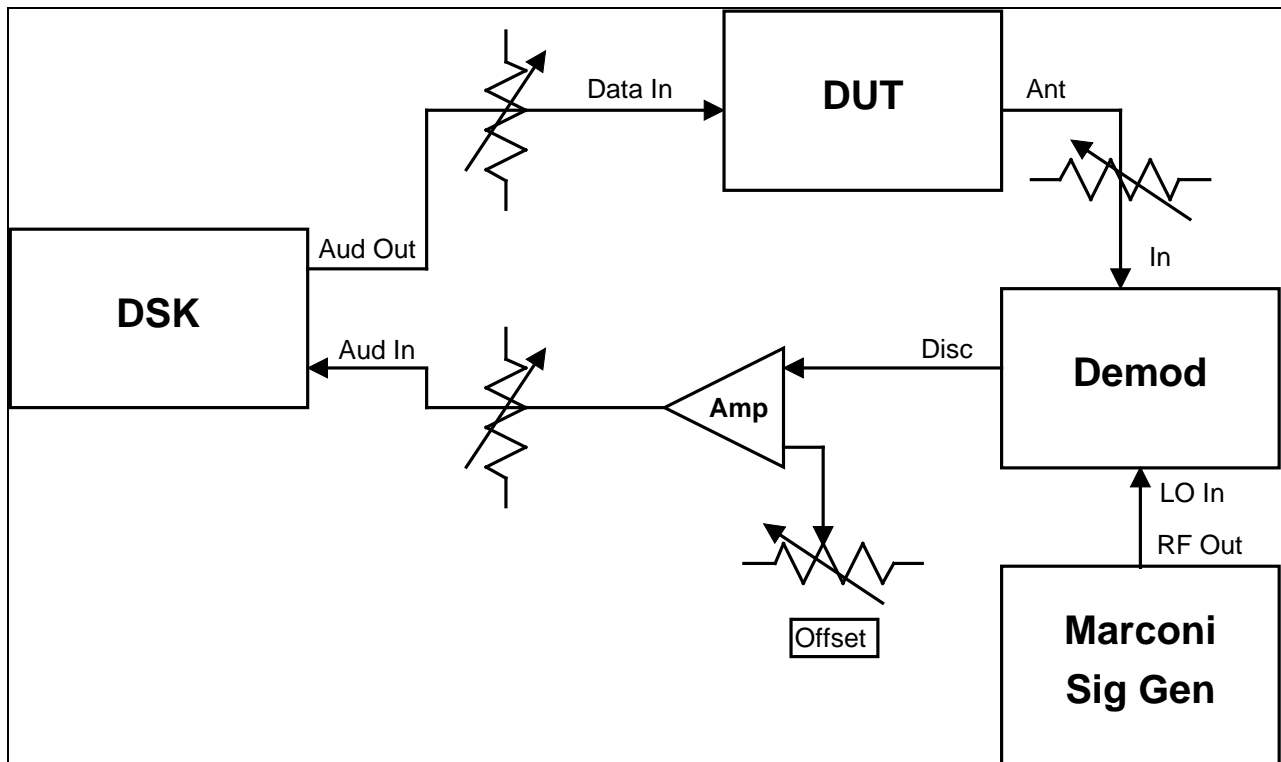

Fig. 6.4-1.
6.4.2 Test initialization and hook-up (see Fig 6.4-1).